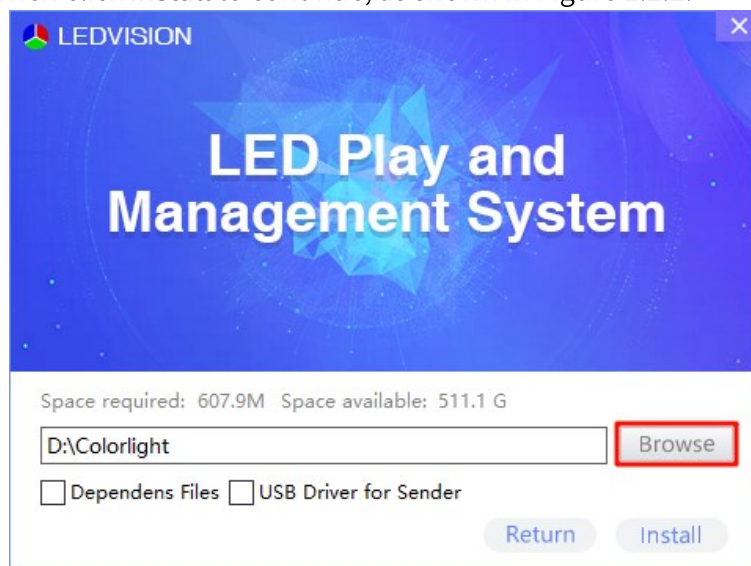

Fig 1.2.2 Custom installation
Step 1: In the installation interface, click **Customize** and choose a path you desired for installation. Then click **Install** to continue, as shown in Figure 1.2.2.